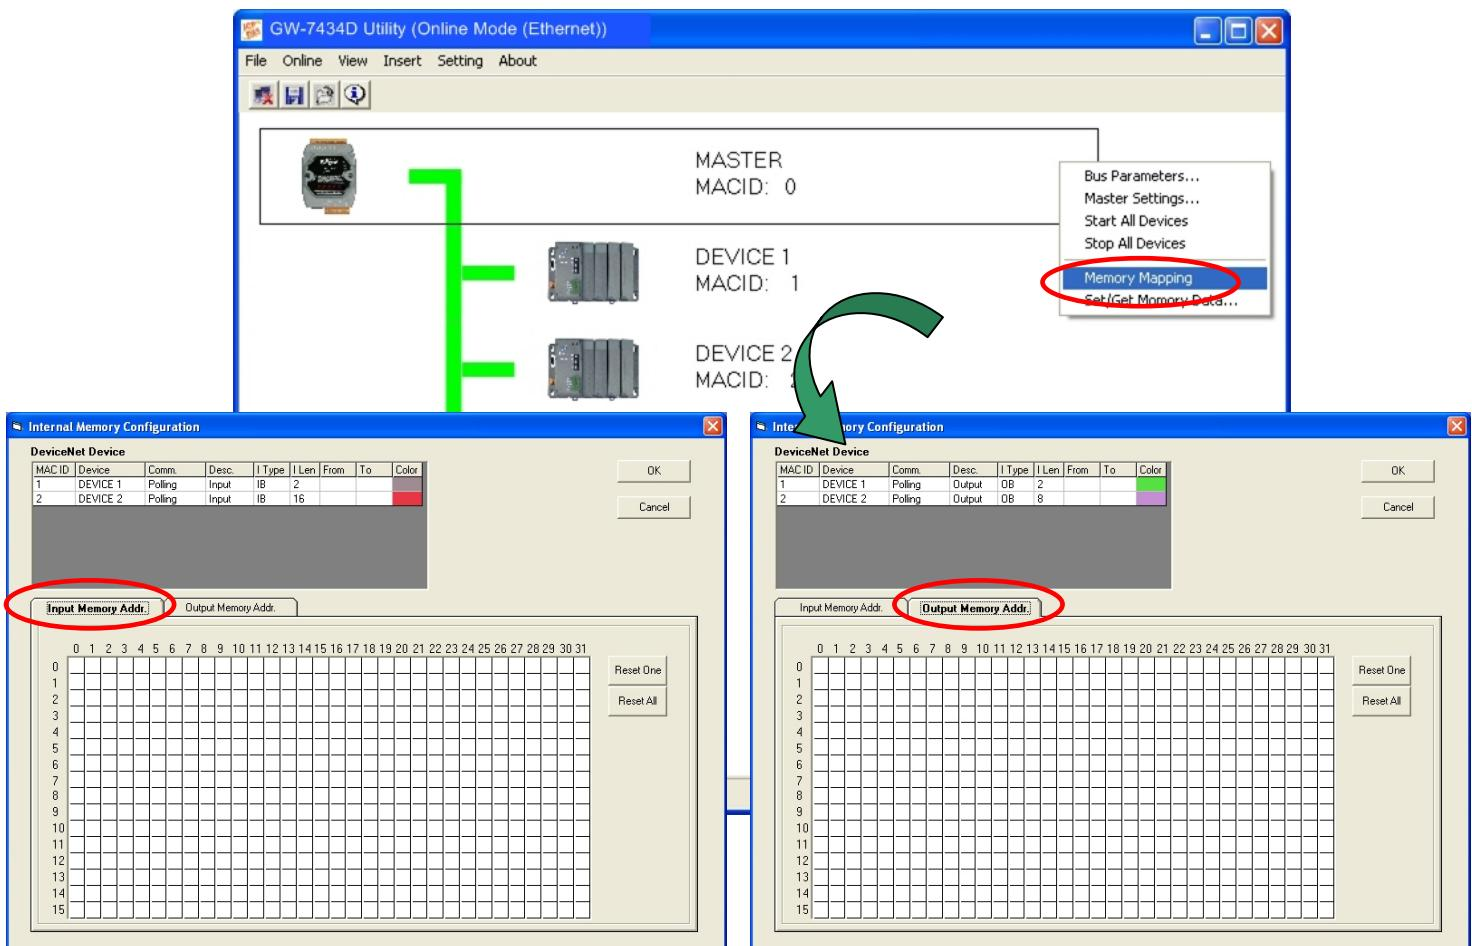

Figure 5-29: Internal Memory Configuration
2. Select the “Setting” item on the menu bar, or click the mouse right-button on the master frame, then click the “Memory mapping” item. Then the “Internal Memory Configuration” window will be pop-up. As shown in figure 5-29.